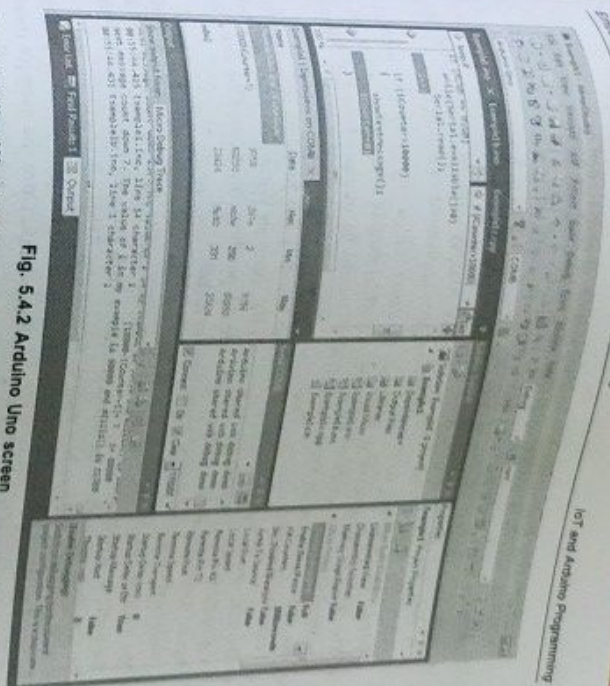

Fig. 5.4.2 Arduino Uno screen
- Fig. 5.4.2 shows Arduino Uno screen.